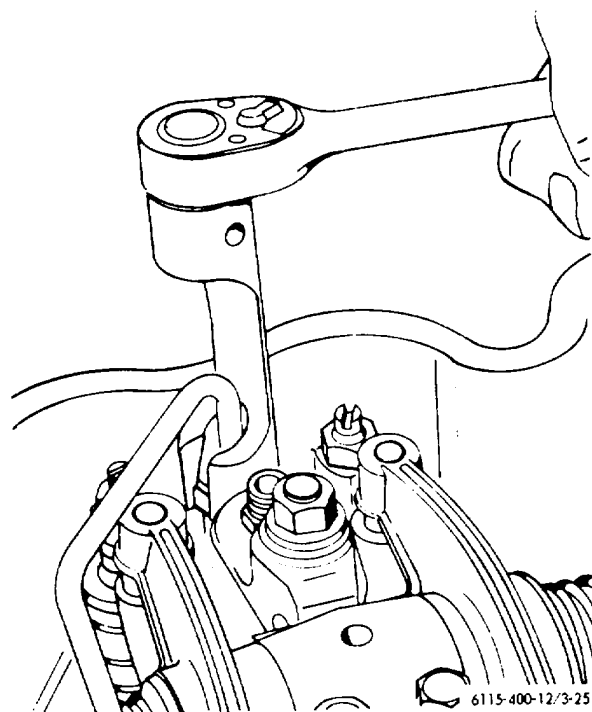

Figure 3-25. Fuel injection tubes, removal and installation.
- (1) Thoroughly clean valve rocker covers and surrounding area.
- (2) Remove valve rocker covers.
- (3) Disconnect and remove the fuel return manifold.
- (4) Using a fuel injection tube nut wrench (fig. 3-25), loosen the injection tube nuts from the top of the fuel injection nozzles.
- (5) Loosen the fuel injection tube nuts from the fuel injection line connectors.
- (6) Free the injection nozzle end of the tubes and remove the tubes from the engine.